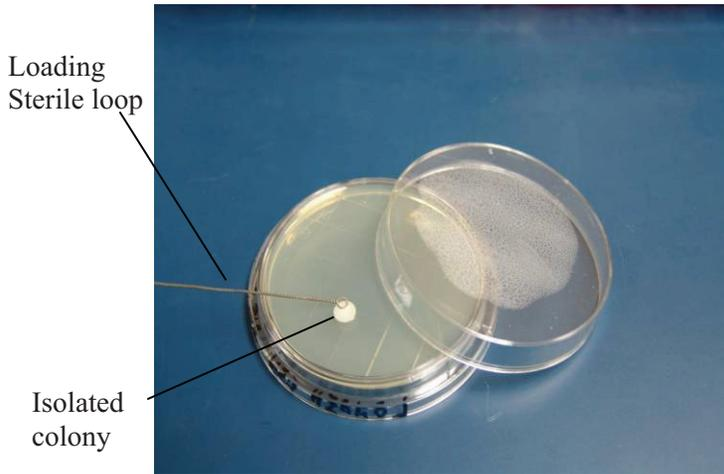

Figure 1: Taking sample colony
- 9.1. Figure 1: Taking sample colony